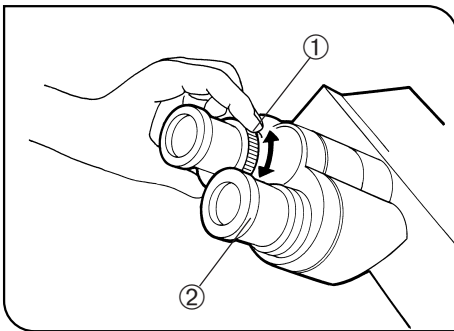

Fig. 22
2 Adjusting the Diopter (Figs 22 & 23)
2. Looking through the eyepiece with the diopter adjustment ring, turn only the diopter adjustment ring ① to focus on the specimen. (Fig. 22)
1. Looking through the right eyepiece with your right eye, turn the top of the eyepiece ② until a clearly defined double crossline can be seen in the field of view. (Figs. 22 & 23)
3. Looking through the left eyepiece with your left eye, turn the diopter adjustment ring ① to focus on the specimen.